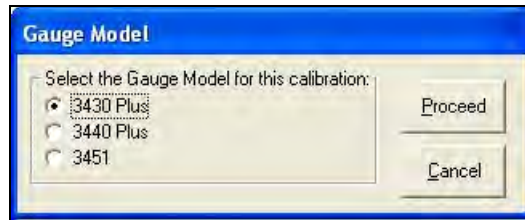

Figure 7. Gauge Model Selection Screen
- 3.5 After the communications port is selected, the **Gauge Model** selection screen (see Figure 7) is displayed. Select the gauge model, then click **<Proceed>**.